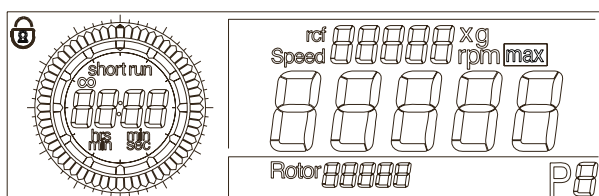

Fig. 5.17: Padlock symbol
- Turn the left rotary knob until a padlock symbol is displayed in the upper left corner of the display (Fig. 5.17).
After the activation of the function, the padlock symbol (Fig. 5.17) will flash. Now the centrifuge can be started and stopped, but the settings cannot be changed.